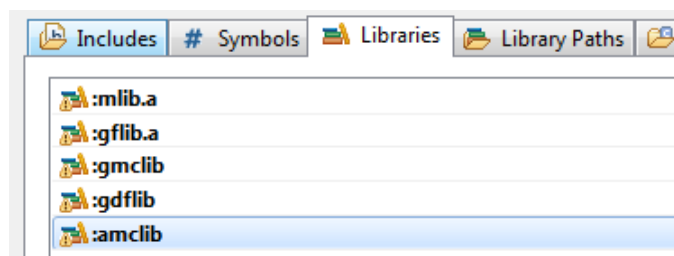

Figure 1-14. Libraries
15. After adding the library paths, add the library files. Click the Libraries tab. See Figure 1-14.
26. Click OK, and you will see the libraries added in the list. See Figure 1-14.